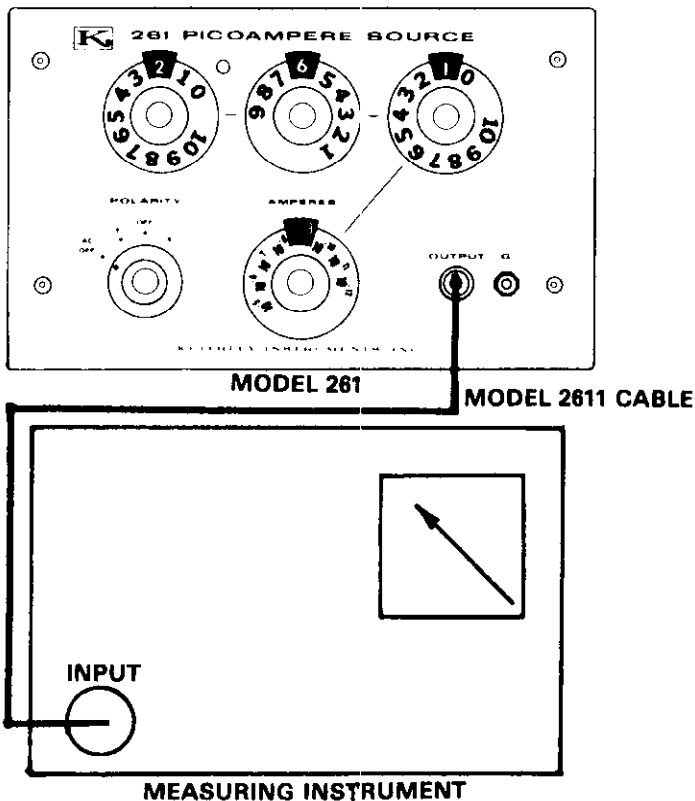

Figure 2-3. Connecting the Model 261 Source
2. Connect the source to the measuring instrument as shown in Figure 2-3. Use the supplied Model 2611 cable to make the necessary connections.